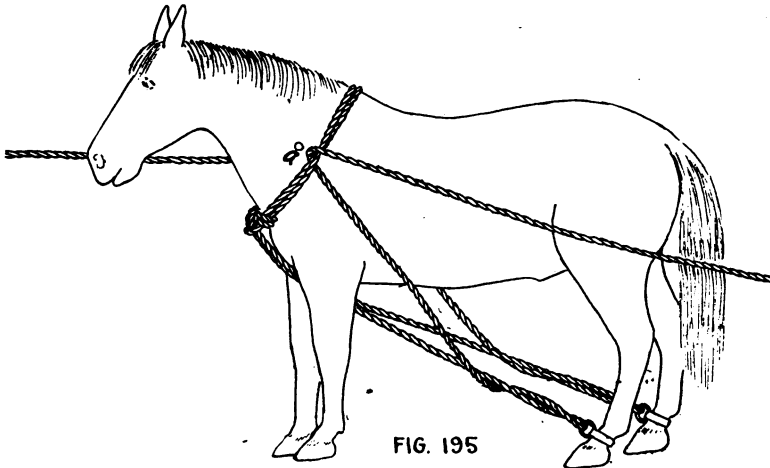

FIG. 195
**Casting Horses.** For casting horses a rope not less than thirty-five or forty feet long, should be used. The rope is doubled and a bowline-on-the-bight tied in the center (figs. 42 to 45). This is placed over the horse's head and adjusted to the size of the neck. The rope is then passed between the fore legs, around the ankles of the hind legs, once around the main rope, as shown in fig. 195, and finally through the loop of the bowline-on-the-bight, at *a*. In order to prevent the rope from burning the hind ankles, ankle straps should be used. Hame straps with iron rings, placed on the ankles answer the purpose admirably. The loop around the neck should be loose enough so that it will not choke the animal when thrown. If the horse is to be thrown on the right side the person holding